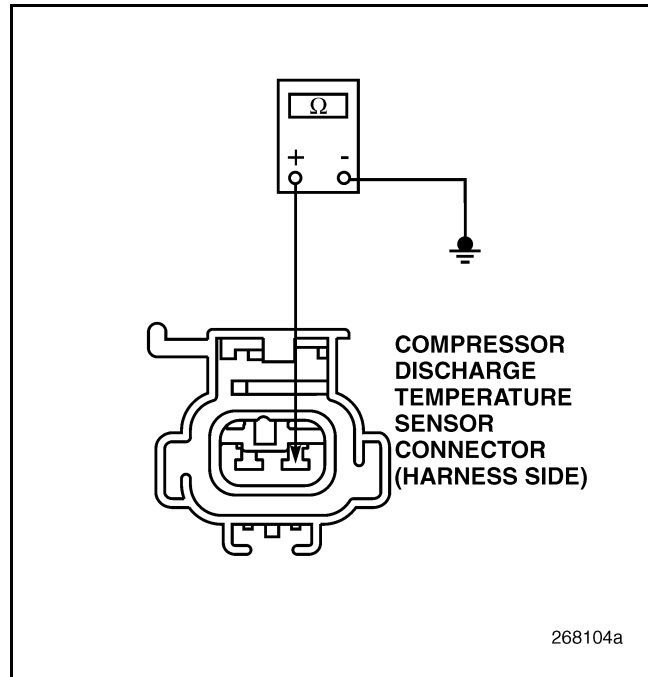

Figure 820
4. Check for continuity between pin 1 of the CDT Sensor harness connector and a good ground (see Figure 820).